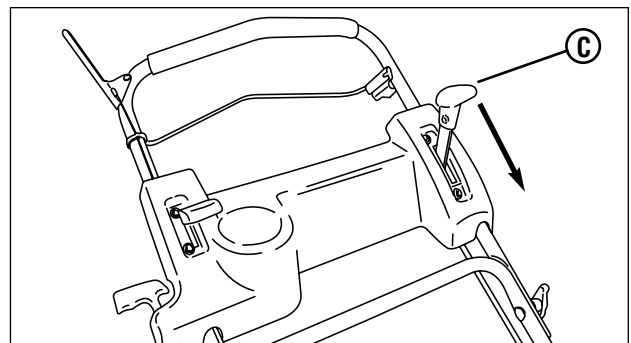

Figure 25: The ground speed control
1. Move the ground speed control (**A, Figure 25**) into the 'fast' position.